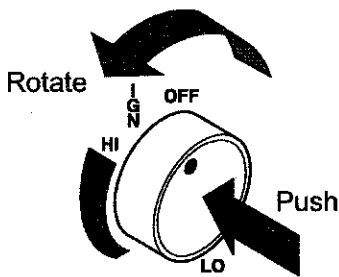

Figure 34 - IGN Position
6. From OFF position, push in gas control knob slightly and turn counterclockwise  to the IGN position. See *Figure 34*. Push in and hold control knob for 5 seconds.
4. See Figure 34 for the location of the piezo ignitor and control knob. Push in gas control knob slightly and turn control knob clockwise to the OFF position.